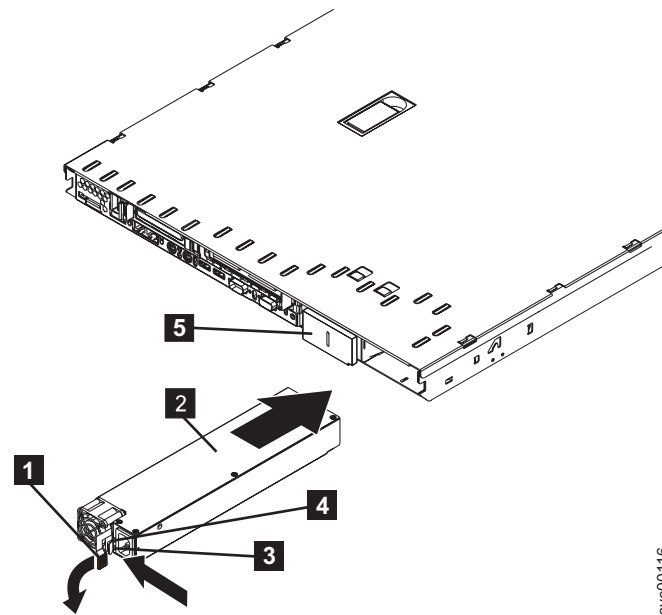

Figure 104. SAN Volume Controller 2145-8F2 power supply handle
- a. Rotate the handle **1** down on the rear of the power supply to the open position, and then slide the power supply forward into the power-supply bay. See Figure 104.